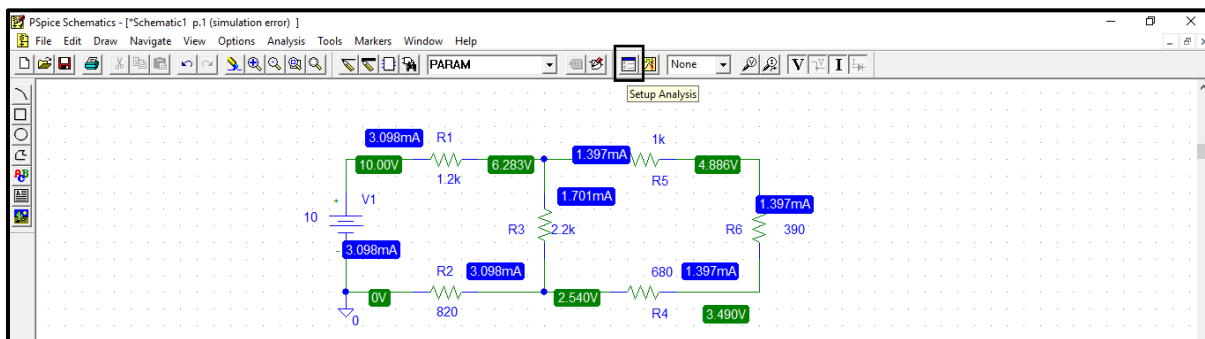

Figure.14
- To perform a DC sweep for the same circuit of the previous section, click on the “setup analysis” icon shown in figure 14.